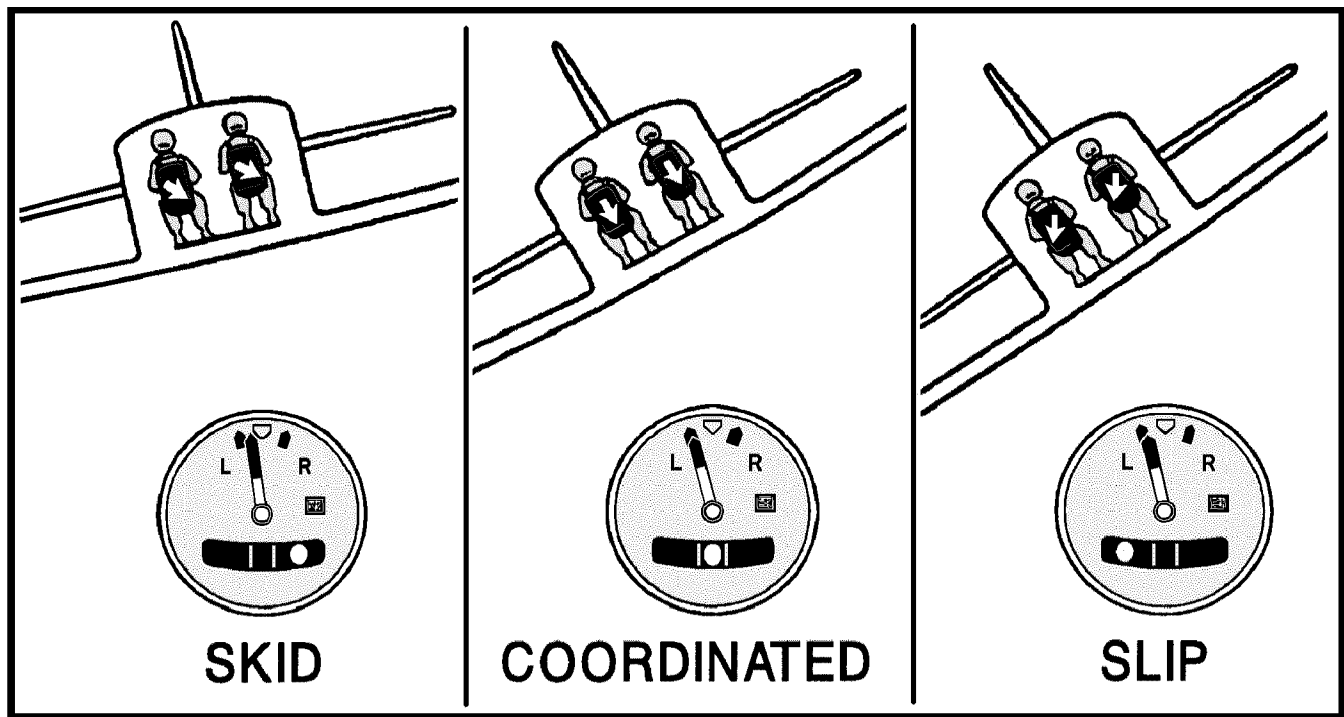

Figure 2.7. Skid and Slip During a Turn.
2.9.1. **Skid.** A skid is caused by insufficient bank angle in relation to the turn rate of the aircraft (figure 2.7). This occurs if you use too much bottom rudder pressure in relation to the aileron pressure or if any bottom rudder is held after establishing a turn. A skid also occurs in level flight if the nose of the aircraft rotates sideways about the vertical axis when the wings are held level, resulting in a slow turn. This occurs when rudder pressure is inadvertently held or the aircraft is improperly trimmed. In a skid, the turn needle and ball are deflected in opposite directions.
2.9.2. **Slip.** A slip is caused by too much bank angle in relation to the turn rate of the aircraft (figure 2.7). When establishing a turn, if you use insufficient bottom rudder pressure in relation to the aileron pressure, a slip will result. You can also slip the aircraft by holding the opposite rudder in a turn. In a slip, the turn needle and ball are deflected in the same direction.